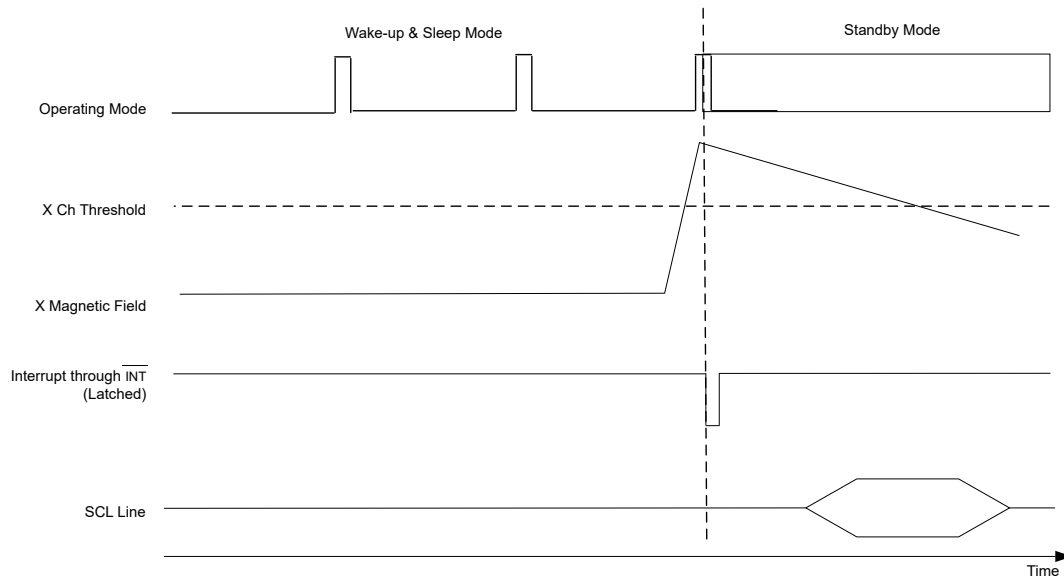

図 7-11. Wake-Up and Sleep Mode Operation With Back-Up Battery
- If a threshold detection even occurs, the  $\overline{\text{INT}}$  signal asserts low to wake-up the microcontroller. When  $\overline{\text{INT}}$  goes low, perform the 16-bit T, X, Y, Z register read with one single read command (see 図 7-11).